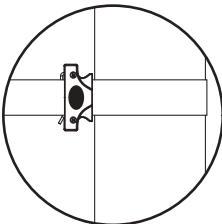

Figure 1
1. The fixing pin on the reel can be directly hooked into the slot hole, or the belt can be clamped with the pin after wrapping the object with a warning tape (**see Figure 1**).